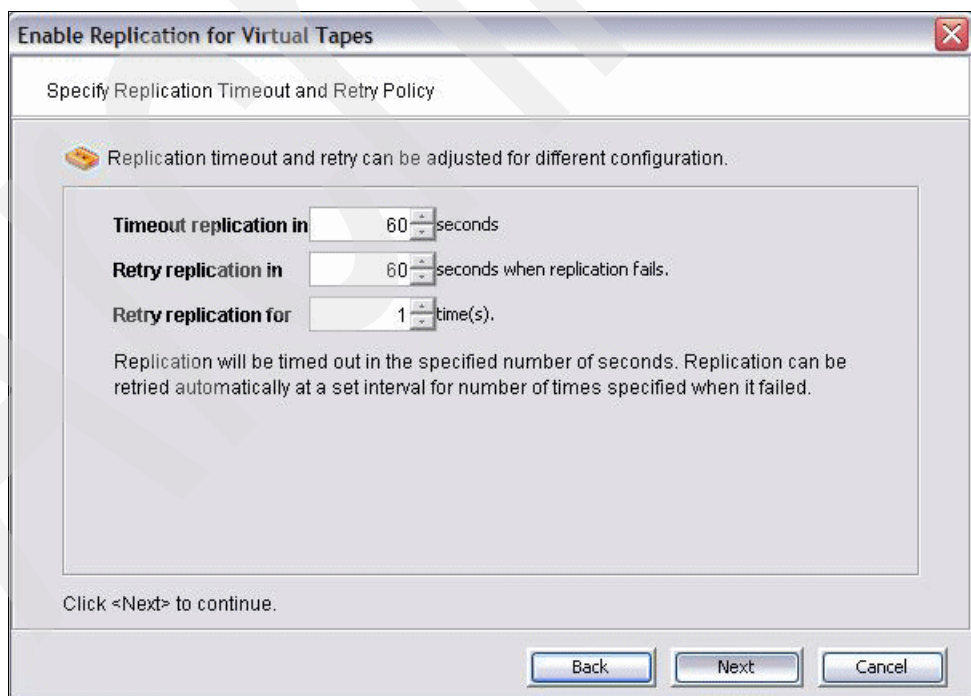

Figure 7-14 Replication timeout and retry options
6. In the Specify Replication Timeout and Retry Options window (Figure 7-14), you can select the replication timeout period, the replication retry period and the number of retries to attempt. We set a timeout and a replication retry period of 60 seconds and one retry.